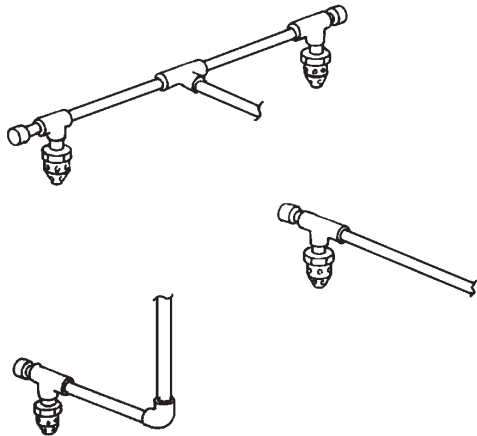

FIGURE 2
- All dead end pipe lines to be provided with a capped nipple, 2 in. long. See Figure 2.